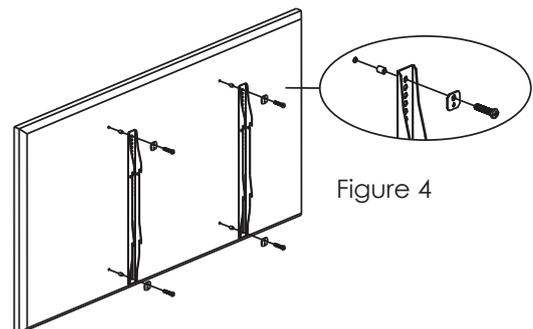

Figure 4
- Mount the arms to the TV using the shortest bolts that will thread into the holes. Always use a washer between each bolt head and the wall plate. Use the included plastic spacers to adjust the spacing between the arms the back of the TV if needed. (Figure 4)